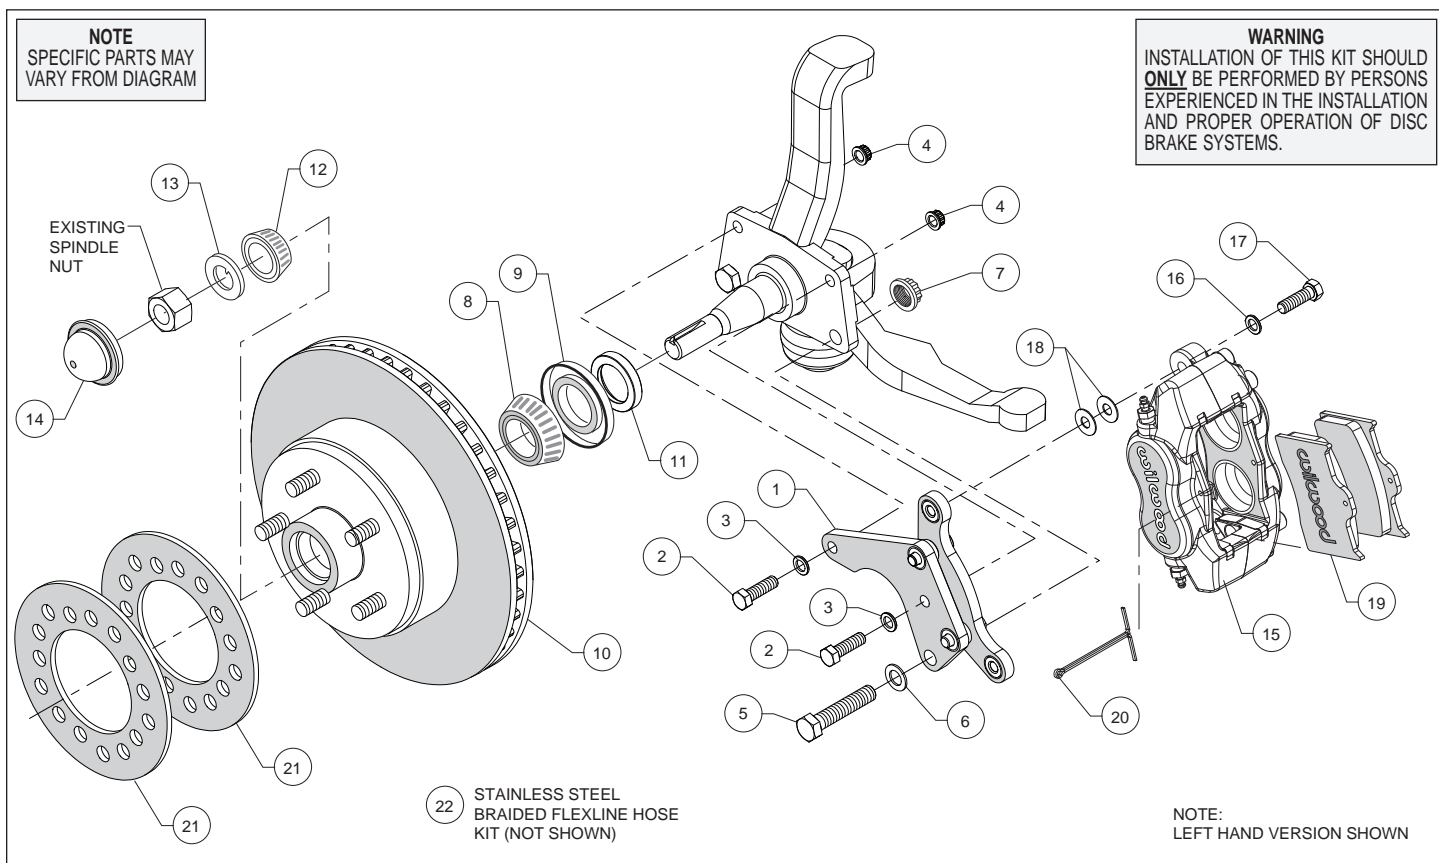
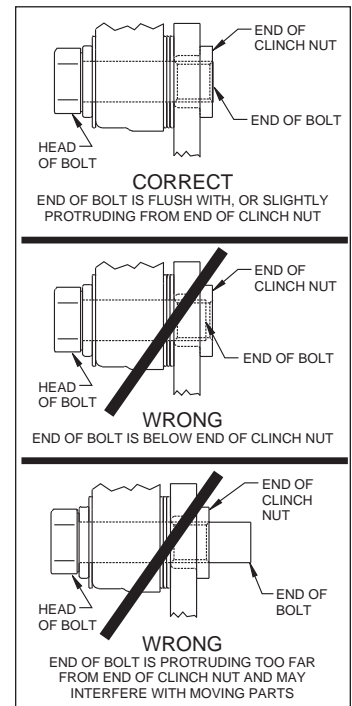

Figure 1. Typical Installation Configuration
Figure 3. Clinch Nut Engagement Diagram
**Assembly Instructions** (numbers in parenthesis refer to the parts list, on the preceding page and Figure 1): **CAUTION:** All mounting bolts must fully engage clinch nuts. Be sure to check that all bolts are either flush or protruding through flanged side of clinch nut after shimming, Figure 3.
- Orient the caliper mount bracket (1) as shown in Figure 1 and Photo 1, and install using bolts (2 and 5), washers (3 and 6), and secure using nuts (4 and 7) as shown in Figure 1. Ensure that the flanged heads of the clinch nuts in the bracket are facing outboard, Photo 1. Temporarily tighten the mounting bolts. **NOTE:** The bracket must fit squarely against the mount bosses on the upright. Inspect for interference from casting irregularities, machining ridges, burrs, etc. Torque lock nuts (4) to 30 ft-lb. and locknut (7) to 65 ft-lb.
- Pack the small outer bearing cone (12) with high temperature disc brake bearing grease and install into hub (10). Slide the hub/rotor onto the spindle. Secure using spindle washer (13), Photo 4, and OEM spindle nut. Bearing adjustment: Tighten the nut while turning the hub. When there is a slight bind on the bearings, they are seated correctly. Back the nut off about 1/6 to 1/4 of a turn, or sufficiently to allow .001" to .007" end play. **WARNING:** Failure to back off adjusting nut could cause bearing to run hot and be damaged, which could cause the wheel to lock or come off. Install new cotter pin (not supplied).
- Press the dust cap (14) into the hub (10).
- NOTE:** Please reference the caution statement at the beginning of the assembly instructions. Mount the caliper (15) onto the caliper mounting bracket (1) using bolts (17) and washers (16), as shown in Figure 1. Initially place two .035" thick shims (18) on each bolt between the caliper and the bracket, Photo 5. Temporarily tighten the mounting bolts and view the rotor (10) through the top opening of the caliper. The rotor should be centered in the caliper, Photo 6. If not, adjust by adding or subtracting shims (18) between the bracket and the caliper. Always use the same amount of shims on each of the two mounting bolts. **NOTE:** The end of each bolt must be flush with or slightly protruding from the head of the clinch nut, as shown in Figure 3. If necessary place spare shims between washer (16) and caliper mounting ear to achieve the proper clinch nut engagement. Once the caliper alignment and clinch nut engagement are correct, remove the bolts one at a time, apply *Loctite*® 271 to bolt threads, and torque to 40 ft-lb.